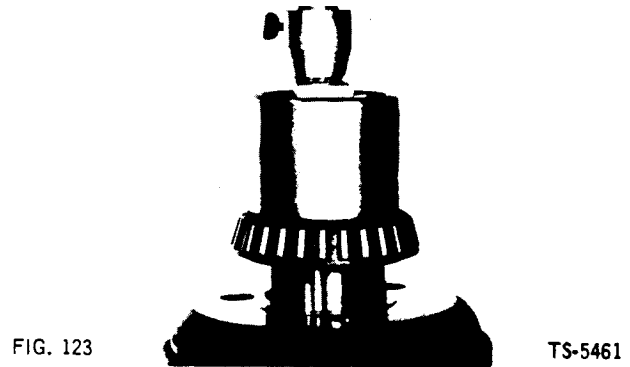
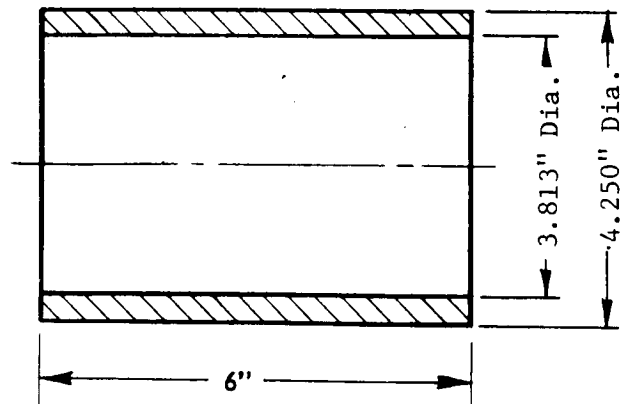

FIG. 123
FIG. 124
5. Press tapered roller bearing cone on internal gear and hub (Fig. 123). Bearing driver dimensions are given in Fig. 124.